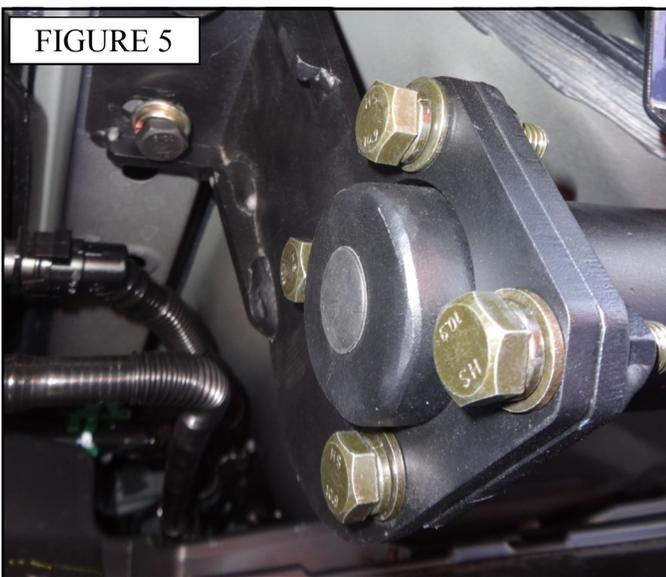

FIGURE 5
8. Attach the main hitch assembly to the inside of both mounting brackets using eight M10 hex cap screws, eight M10 split lock washers, and eight M10 flat washers. Do not fully tighten at this time. Figure 5 & 6